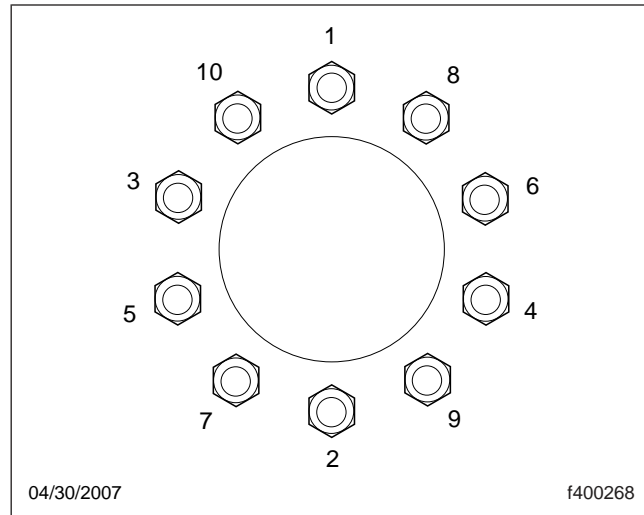
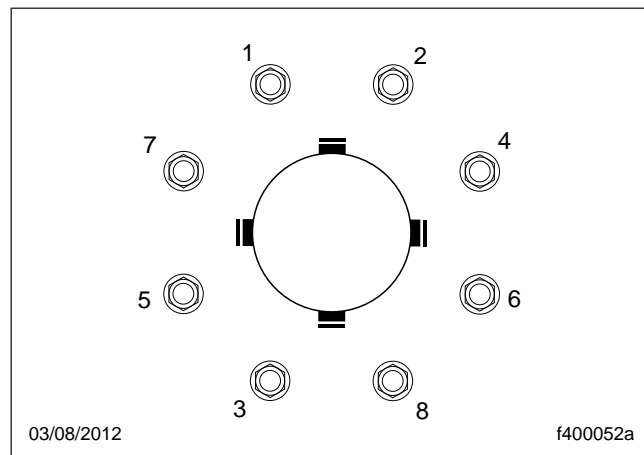

Fig. 11.4, Tightening Pattern, 10-Stud Disc Wheel
Fig. 11.5, Tightening Pattern, 8-Stud Disc Wheel
- 3.3 Make sure all wheel nuts are tightened. If tightening is necessary, use the tightening pattern in Fig. 11.4 or Fig. 11.5 to initially tighten the flange nuts 50 to 100 lbf-ft (68 to 136 N·m). Then tighten the flange nuts 450 to 500 lbf-ft (610 to 678 N·m).